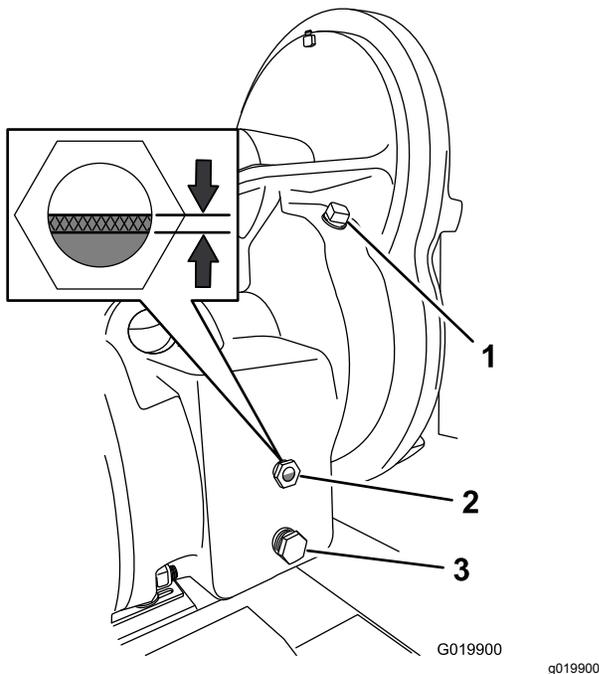

Figure 69
2. At the right side of the gearbox, examine the oil level in the sight glass (Figure 69).
- A. Remove the fill plug from the fill port in the housing of the gearbox (Figure 69).
- B. Slowly add the specified oil into the fill port until the oil level is between 1/3 and 1/2 of the sight glass (Figure 69).
- E. Install the plug into the fill port in the housing (Figure 69).
1. Align a drain pan with a 2.8 L (3 US qt) capacity under the drain plug (Figure 69).
2. Remove the drain plug from the drain port and completely drain the gearbox oil (Figure 69).
3. Remove the fill plug (Figure 69).
5. Install the drain plug in the drain port (Figure 69).
6. Slowly add the specified oil into the fill port until the oil level is between 1/3 and 1/2 of the sight glass (Figure 69).
7. Install the fill plug in the fill port (Figure 69).